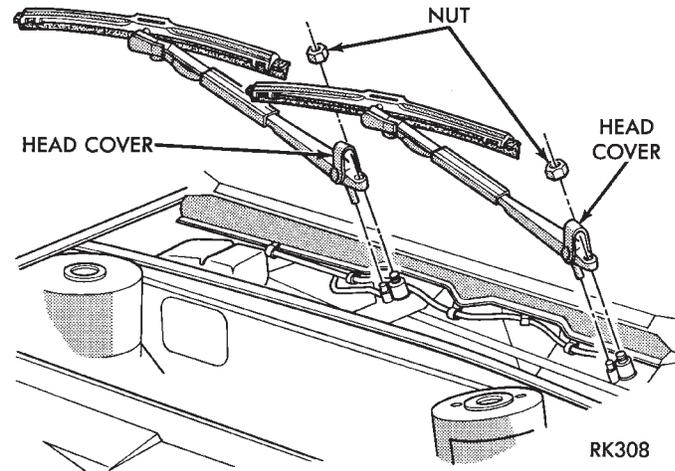

Fig. 7 Wiper Arm Head Cover and Nut—AA, AC, AP and AY Bodies
(2) Lift the head cover (Fig. 7) and remove the wiper arm attaching nut.
(3) Remove the wiper arm from the pivot using a rocking motion.